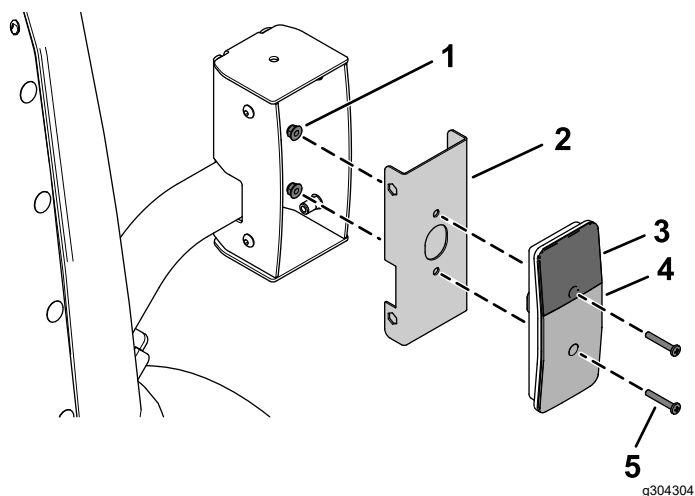

**Figure 29**
5. Route the wire-harness connector labeled HORN (P13) to the horn. Connect the harness to the horn (Figure 29).